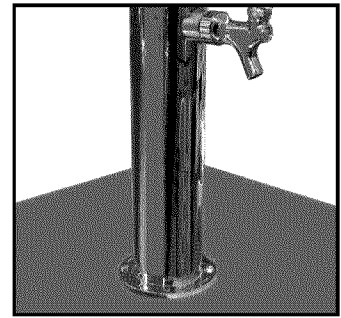

Fig. 07
2. Mount the draft tower onto the counter top using the four furnished screws and the one mounting gasket (Fig. 07).